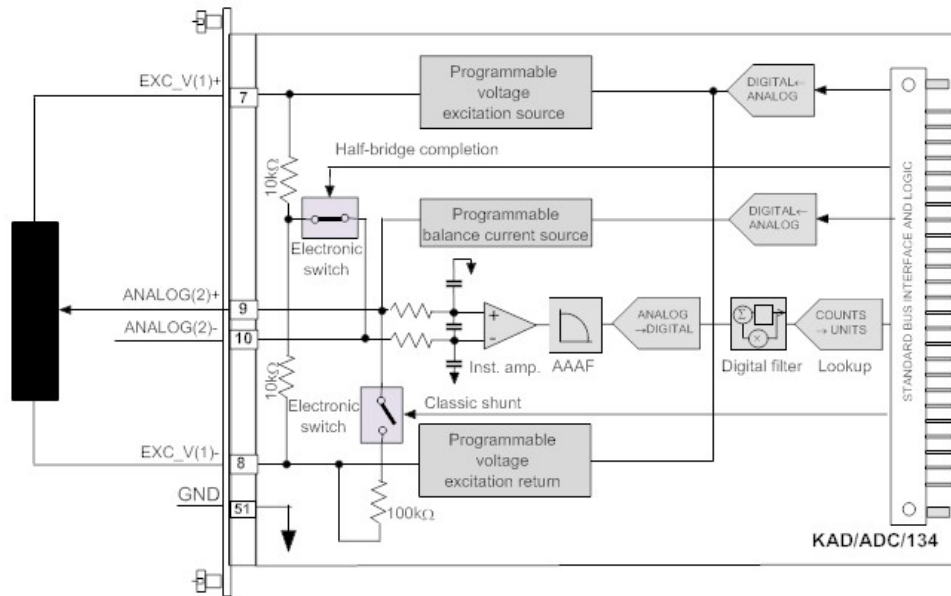

Figure 4: Third channel in potentiometer configuration, with matched pair of internal completion resistors enabled (recommended)
**NOTE:** For the KAD/ADC/134, internal completion resistors can be enabled by changing the Enable Half Bridge Completion Resistors setting to Enabled (see Figure 4 on page 9).